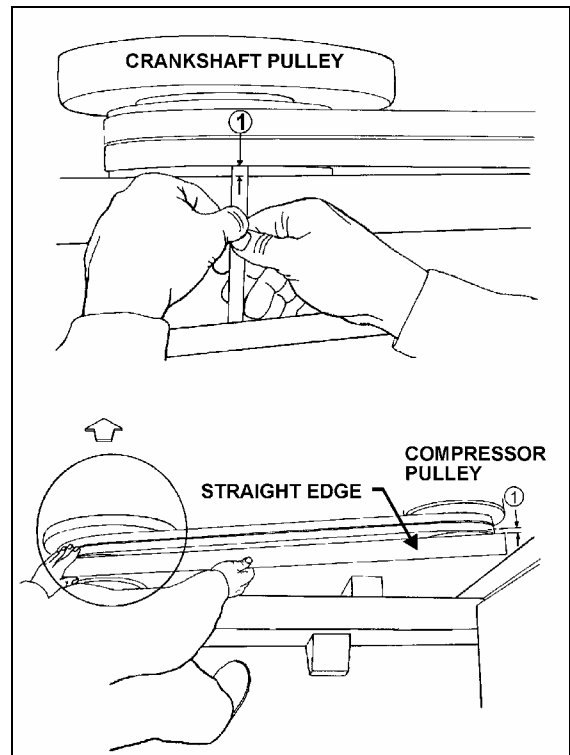

FIGURE 19: COMPRESSOR ALIGNMENT
2. Check the distance between each extremity of straight edge (1. Fig. 19) and the first drive belt. If they are different, loosen the compressor support bolts and with a hammer, knock support to slide it in order to obtain the same distance; then tighten bolts.
2. Check the distance between each extremity of straight edge (1, Fig. 19) and drive belt. If they are different, loosen the pillow block compressor bolts and with a hammer, knock compressor pillow block to slide it, in order to obtain the same distance; then tighten bolts.